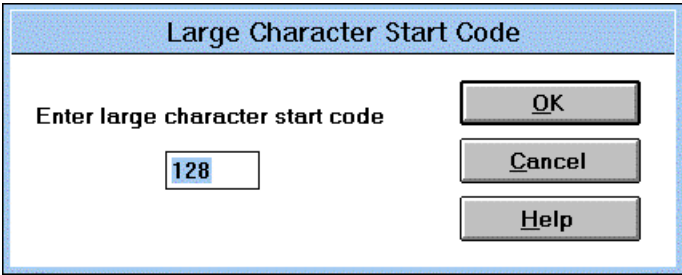

Figure 9-4
- **Large Characters** - The large character set must be kept continuous. A dialog box is shown in Figure 9-4 that represents the starting character in a large character set. *Note that this starting character is not the same for every font.*